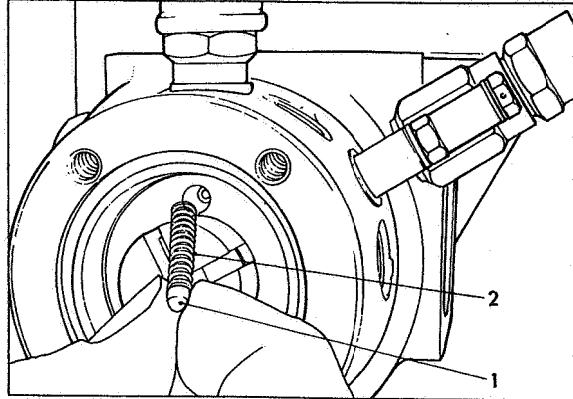

Fig 73 Removing dumb-bell valve spring
Carefully note the position of the locating slot in pump liner, ie, 3 o'clock or 9 o'clock when viewed from transfer rotor end, and gently remove liner. Remove dumb-bell valve pin (1) Fig 73 and dumb-bell valve spring (2). Remove from the end plate the retaining sleeve spring, filter, transfer pressure adjuster, spring peg, regulating sleeve, regulating spring, regulating piston and piston retaining spring. Remove and discard sleeve washer from regulating sleeve and discard washer.